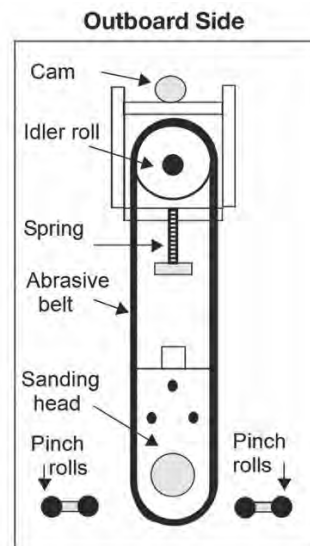

Figure 9-13: Installing Abrasive Belt
4. Move to the machine's outboard side and remove the old abrasive belt by sliding it off the idler roll and sanding head (see Figure 9-13).